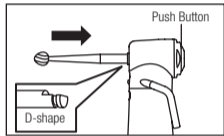

Fig. 2
- 1) Insert the bur until it is correctly seated in place (Fig. 2).